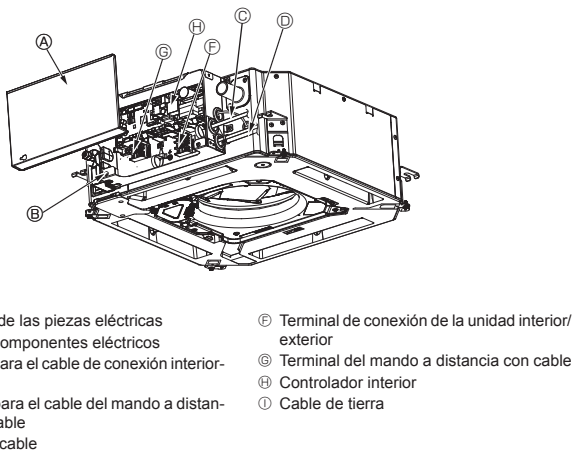
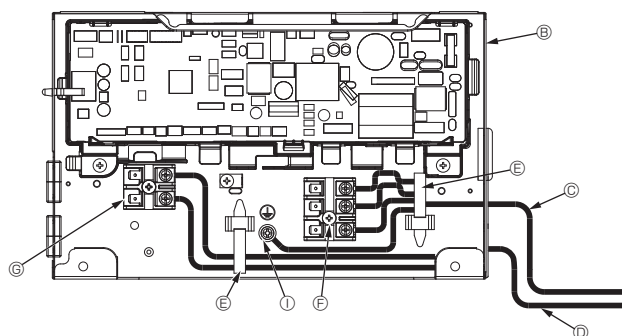
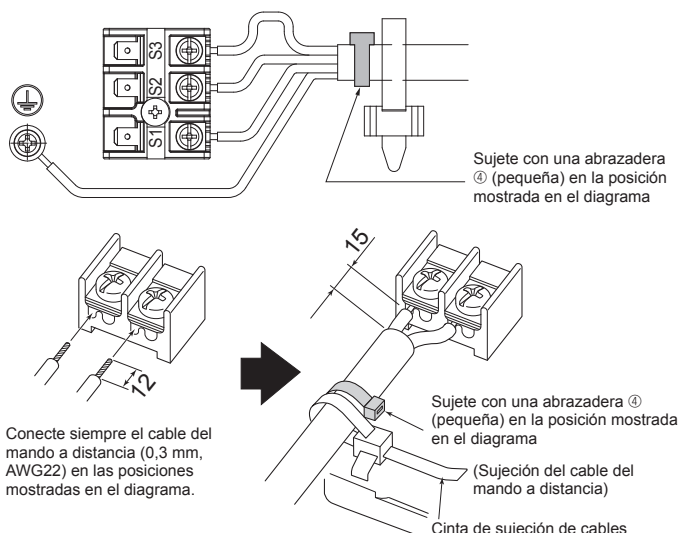

Fig. 7-1
Fig. 7-2
Fig. 7-3
7.2. Unidad interior (Fig. 7-1) (Fig. 7-2) (Fig. 7-3)